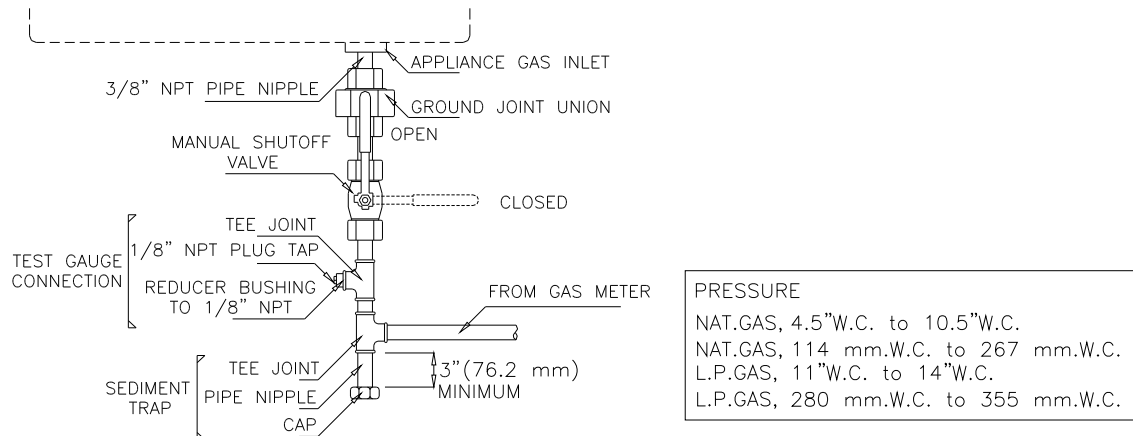

Figure 21
- 4) The supply system must include a manual shut off valve and connection in the line, so the heater can be disconnected for servicing. (See Figure 21).